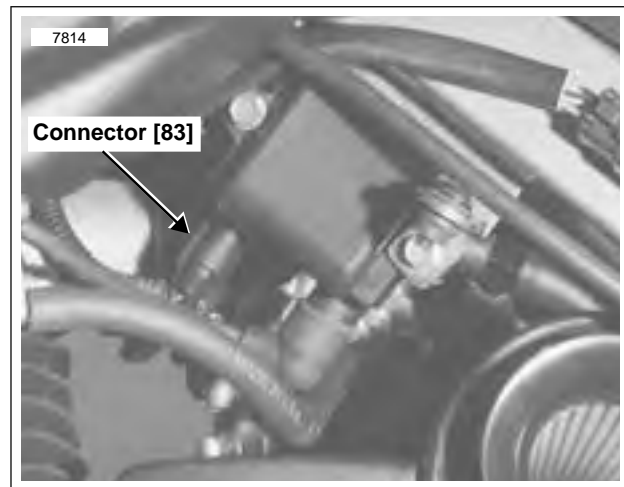

Figure 7-96. Coil Connector [83]
15. See Figure 7-96. Disconnect ignition coil connector [83] at coil.